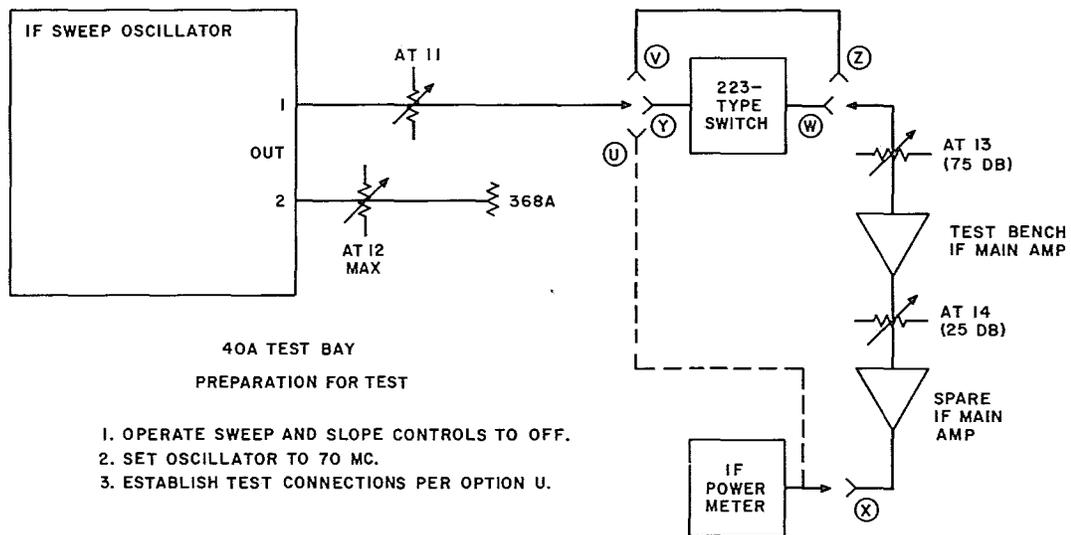

Fig. 14 — Arrangement for Crosstalk Test Using 40A Test Bay
- (a) Establish the circuit of Fig. 14 or 15 option U.
40A TEST BAY (Fig. 14)